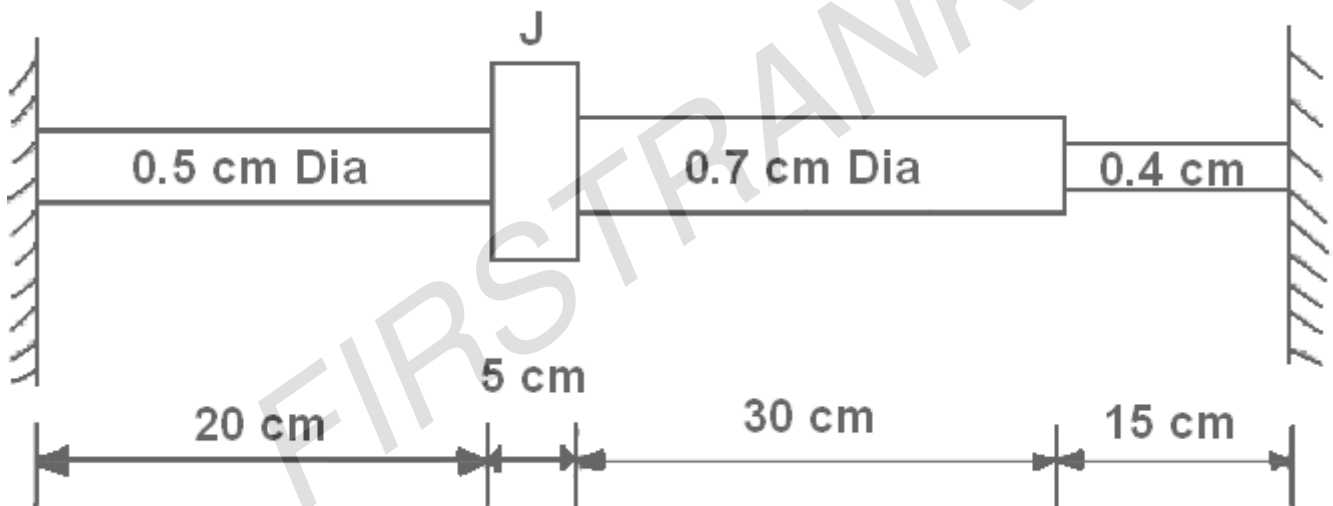

Figure 5:
8. Determine the torsional natural frequency of the system shown in the figure 5. Neglect the mass moment of inertia of the shaft. $J=0.0095 \text{ kg-m}^2$. [16]